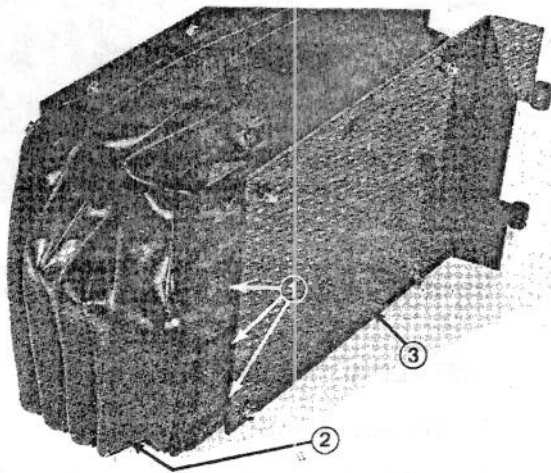

Figure 5
11. Unsnap rubber bellows and mount seat suspension to seat mount with (4) capscrews, lock-washers and nuts (Fig. 5).